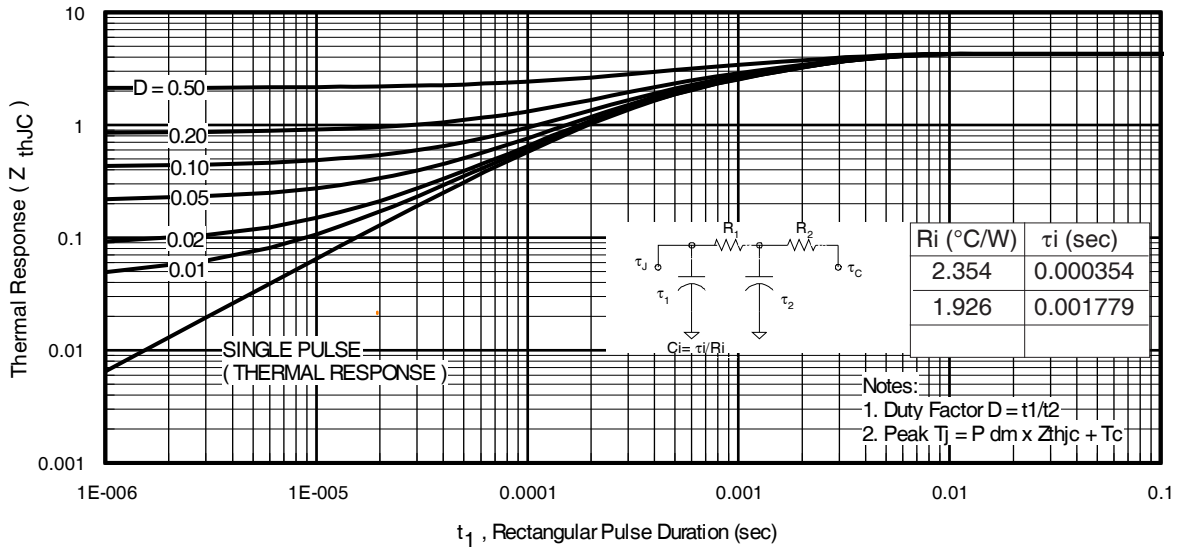

Fig 11. Maximum Effective Transient Thermal Impedance, Junction-to-Case
- ① Repetitive rating; pulse width limited by max. junction temperature. (See fig. 11).
- ② Limited by T_{Jmax} , starting $T_J = 25^\circ\text{C}$, $L = 0.54\text{mH}$, $R_G = 25\Omega$, $I_{AS} = 9.6A$, $V_{GS} = 10V$. Part not recommended for use above this value.
- ③ Pulse width $\leq 1.0\text{ms}$; duty cycle $\leq 2\%$.
- ④ $C_{oss\ eff.}$ is a fixed capacitance that gives the same charging time as C_{oss} while V_{DS} is rising from 0 to 80% V_{DSS} .
$Z_{thJC}(D, t_{av})$ = Transient thermal resistance, see figure 11)